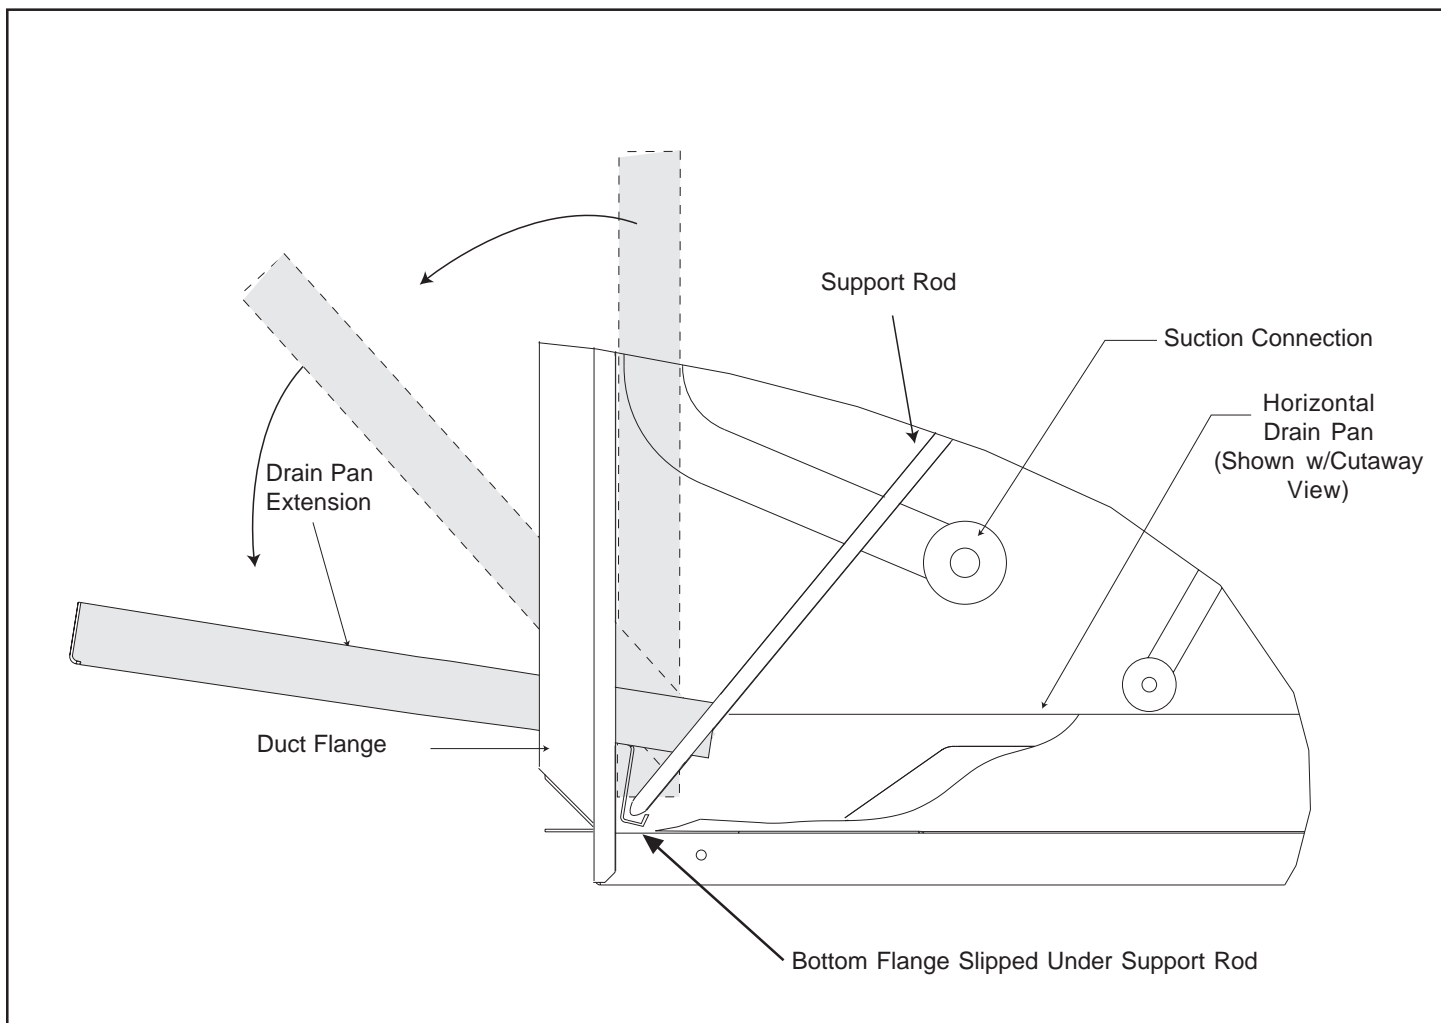

Figure 4.
- 9) Slip the bottom flanges of the drain pan extension under the coil support rod in the drain pan. Make sure the side tabs fit inside the drain pan on each side between the drain pan inside wall and the coil support rod. The drain pan extension will be on top of the coil. (See Figure 4.)
- 11) After the coil is in the horizontal position, bend the drain pan extension down until it is almost horizontal (See Figure 4.)